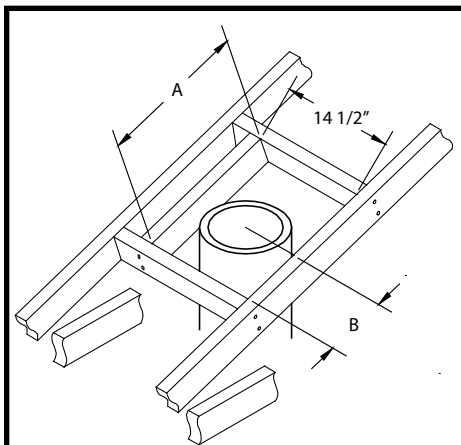

Figure 35: Roof opening frame.
2. Continue adding vent pipe lengths up and through the firestop(s) and through the roof. The vent pipe must extend at least 12" above the roof. Vent pipe may need to extend further depending on the roof pitch. See table in (Figure 35) for precise lengths.